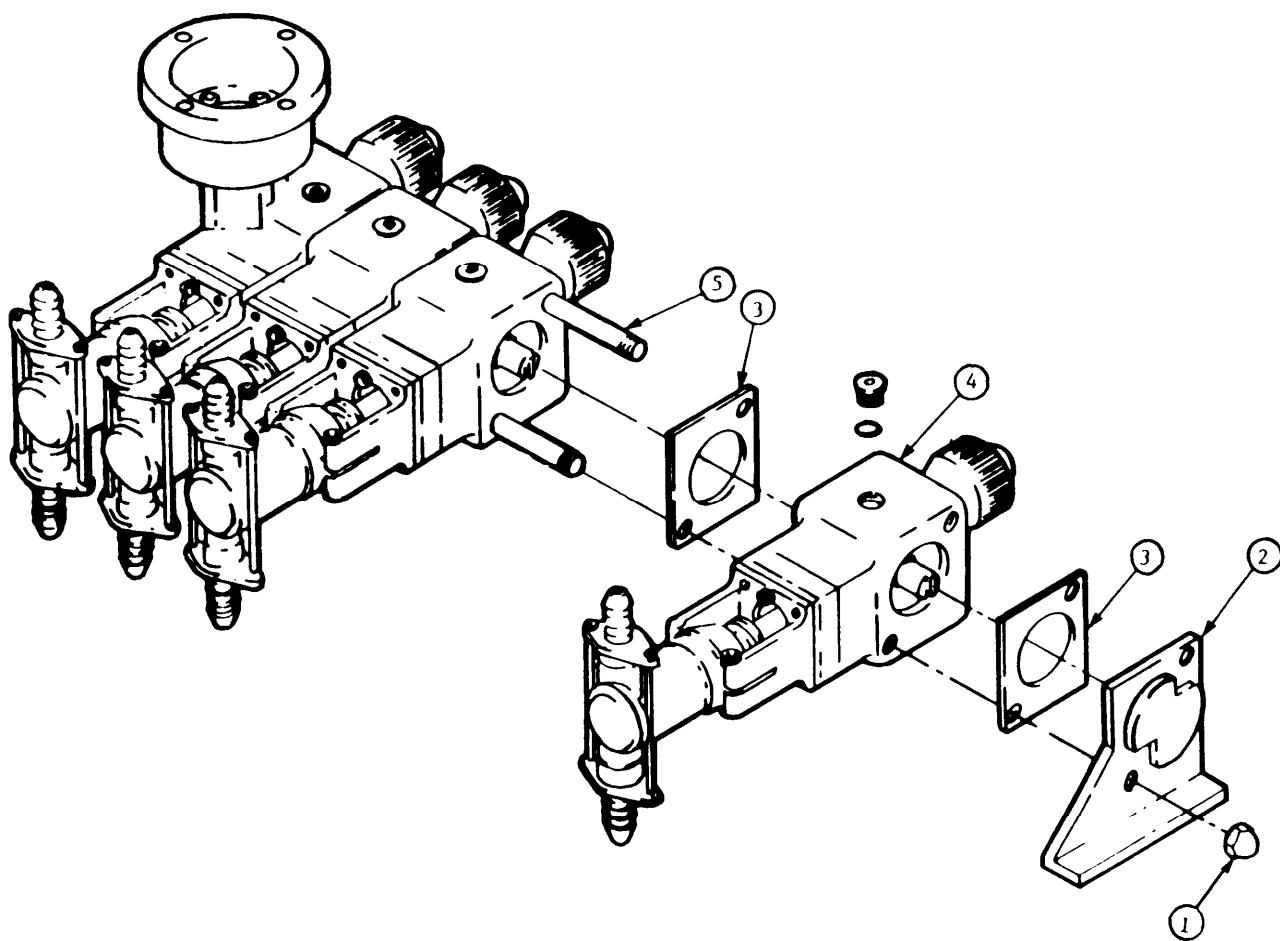

Figure 3-25. Chemical Feed Pump Block/Head Assembly (ARMY)
- (2) Remove two nuts (1) (figure 3-25) (ARMY) from tie rods holding assembly together.
- (1) Install pump block/head assemblies (4) (figures 3-25 and 3-26) and gaskets (3) on tie rods (5). Install one assembly at a time.
- (2) Install end plate (2) and gasket (3) on tie rods (5).
- (3) Install two nuts (1) on ends of tie rods (5) (figure 3-25) (ARMY).